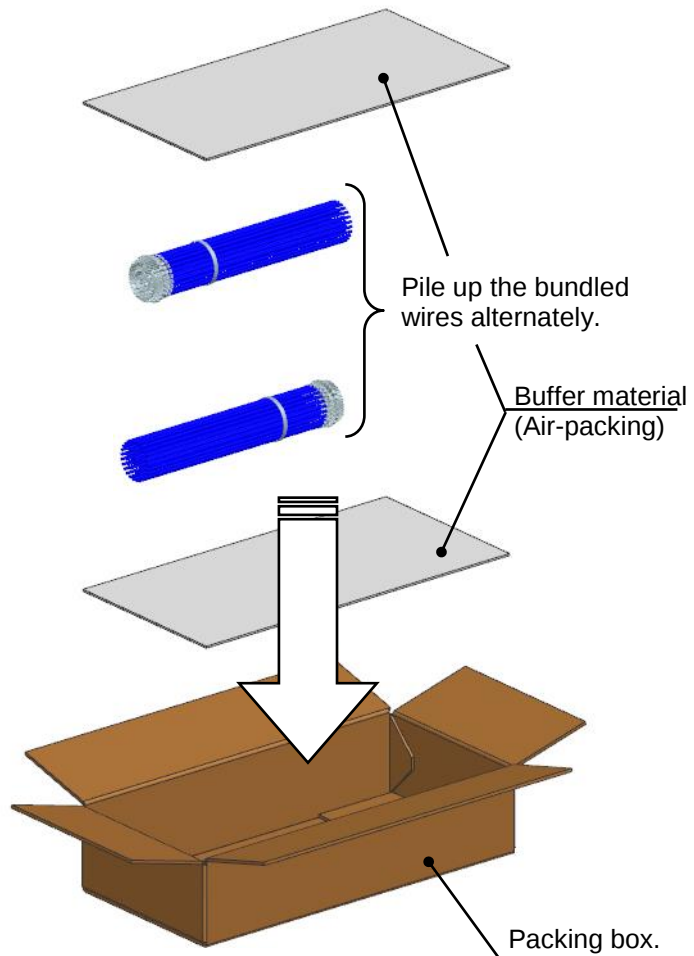

Fig.5-2
- ※ When packing bundled harnesses after processing in package box, in order for force not to be applied to connector for a long period of time by piling up, please put product alternately (cross shape) in a fitting box. (**Fig.5-2**)
In order to avoid applying force to connector for a long period of time by stacking the wires, please lay buffer material. (**Fig.5-2**)